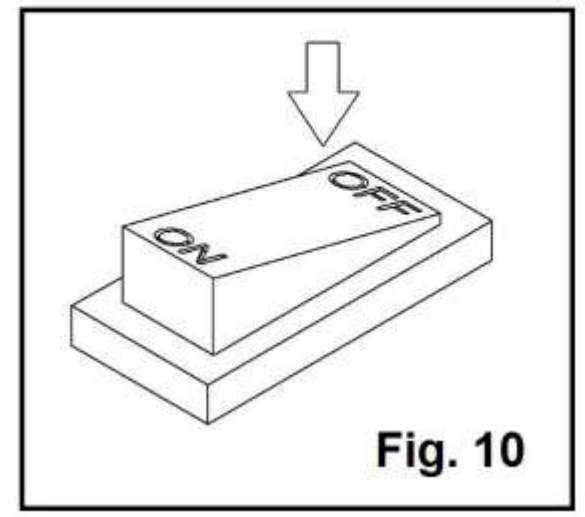

Fig. 10
10. To stop the engine switch the ON/OFF switch to the “OFF” position (Fig.10)